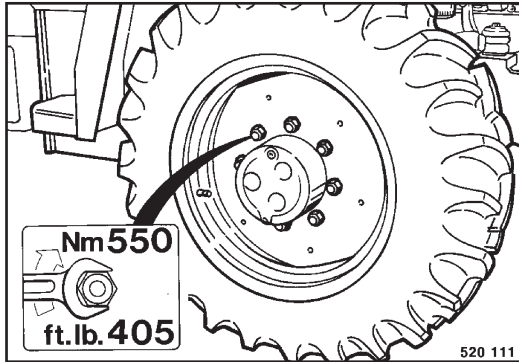

Fig. 139
- Tighten the wheel nuts (Fig. 139) in a cross-type pattern.